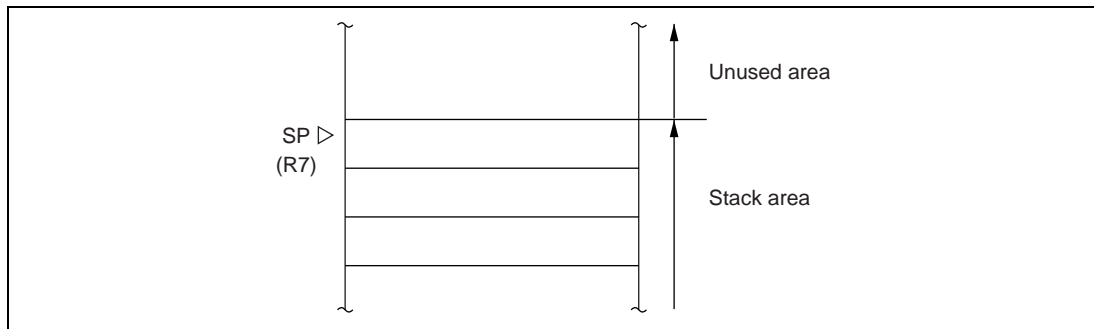

Figure 2.2 Stack Pointer
R7 also functions as the stack pointer, used implicitly by hardware in processing interrupts and subroutine calls. In assembly-language coding, R7 can also be denoted by the letters SP. As indicated in figure 2.2, R7 (SP) points to the top of the stack.